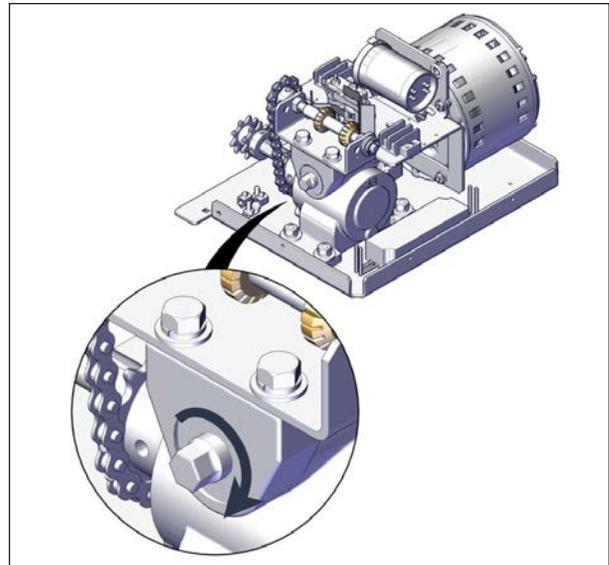

FIGURE 65: OPERATOR EXTENSION SHAFT
3. Use 1/2" (13 mm) hexagonal socket wrench to raise or lower the spa cover by turning the operator extension shaft, see Figure 65.